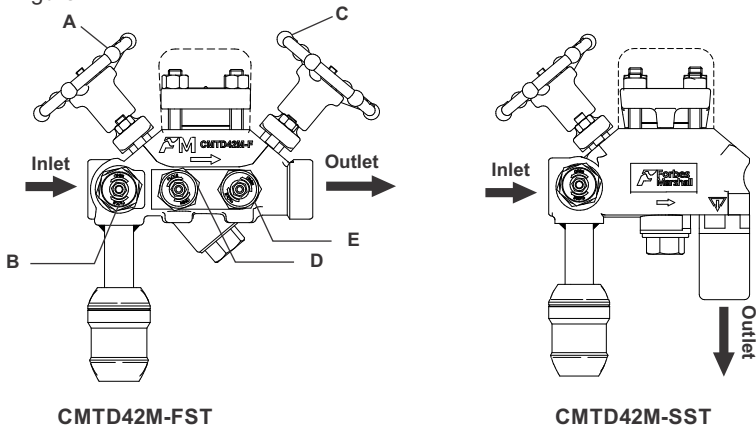

Figure 4: Compact Module Thermodynamic Trap
1. The Compact Module Thermodynamic trap [CMTD42M-FST] is a compact steam trap module comprising of a thermodynamic steam trap, upstream isolation valve (A) and downstream isolation valve (C) to protect the steam trap, a trap test valve (D) to test the steam trap functioning, a bypass valve (B) before the steam trap to bypass the flow during maintenance of the steam trap and a trap vent valve (E) to release pressure in the steam trap safely at the time of maintenance as shown in figure 4.